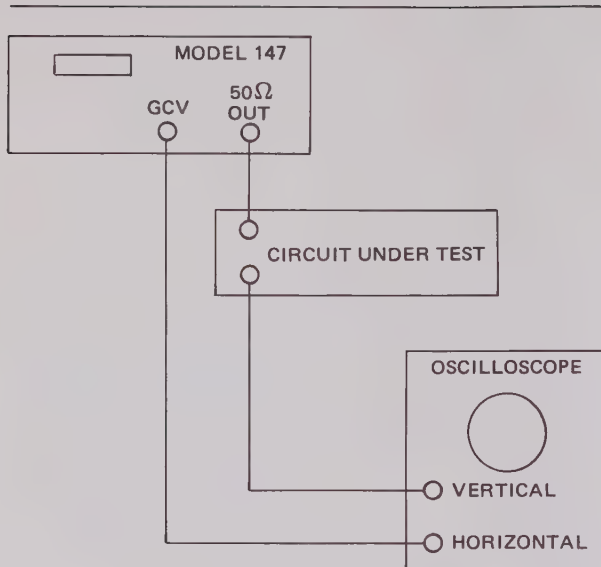
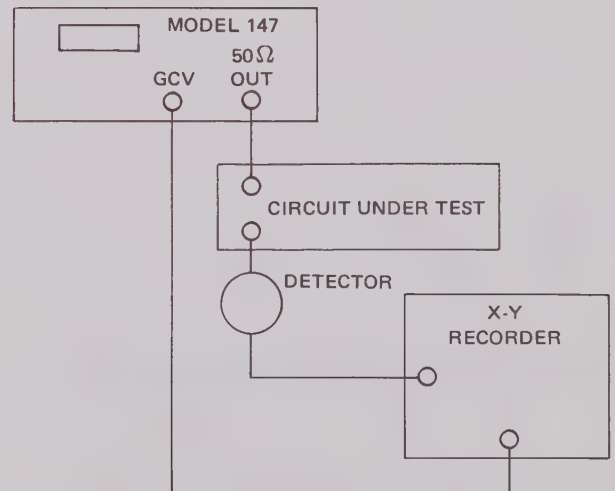

Figure 2-8. Frequency Response Test Using an Oscilloscope in the X-Y Mode
Figure 2-9. Frequency Response Test Using an X-Y Recorder
These modes together with the GCV output can be used to perform frequency response tests and drive an X-Y recorder or oscilloscope for display of the frequency response. As an example, Figure 2-8 shows a circuit under test which is to be swept and the frequency response of the circuit displayed on the oscilloscope. Figure 2-9 shows a similar setup using an X-Y recorder. The following procedure is used to set up the Model 147 as a sweep generator.
1. Terminate the 50Ω output with 50Ω . Setup as in Figure 2-8 or 2-9 except bypass the circuit under test for this setup procedure.
12. Insert the circuit to be tested as in Figures 2-8 or 2-9 and observe the frequency response characteristics shown on the oscilloscope or recorder.